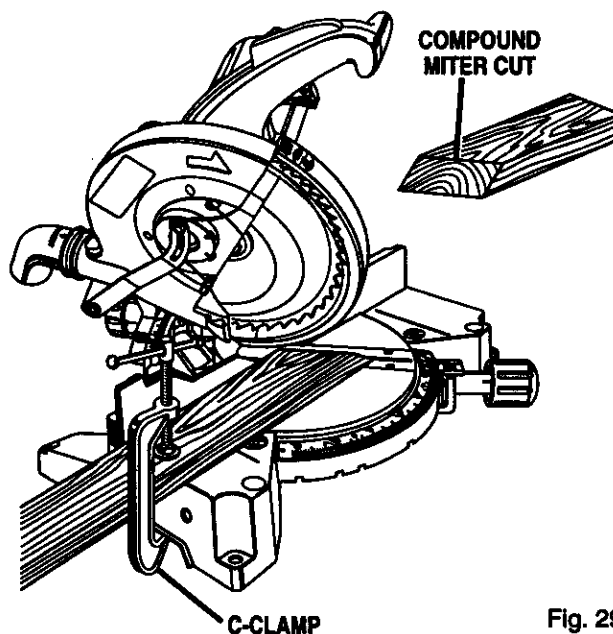

Fig. 29
- Grasp the stock firmly with one hand and secure it against the fence. Use the optional work clamp or a C-clamp to secure the workpiece when possible. *See Figure 29.*
- Slowly lower the blade into and through the workpiece. See Figures 29 and 30.